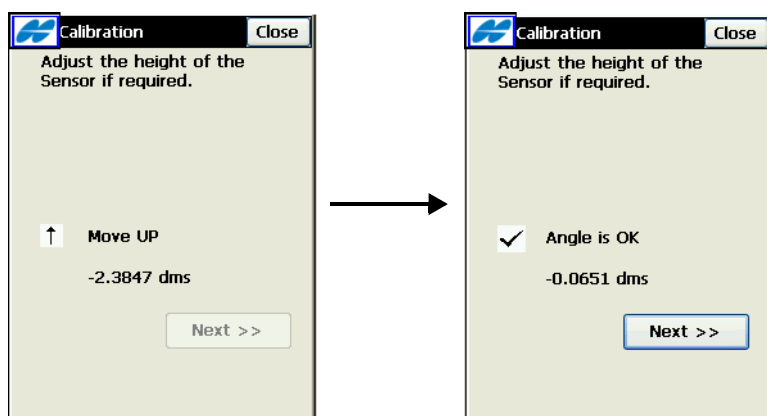

Figure 8-49. Check Angle of Sensor
- **Next** – starts the process of auto-leveling (Figure 8-49 on page 8-43).